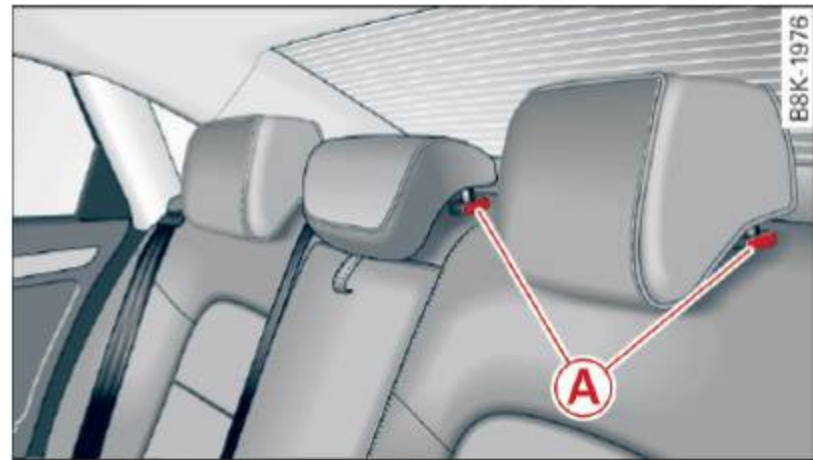

Fig. 62 Rear seat: head restraints
- ▶ To move the head restraint down, press the button  ⇒ *fig. 62* and slide the head restraint downward.
⇒ *fig. 62*. Pull the head restraint out of the backrest at the same time ⇒ .
- ▶ Press the button  ⇒ *fig. 62* and slide the head restraint all the way down. You should not be able to pull the head restraint out of the backrest.